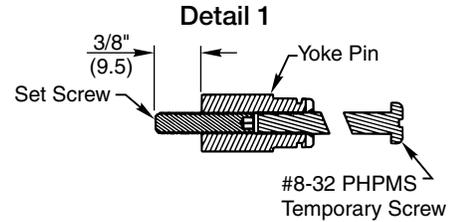

Figure 14
- B. Attach top latch with two (2) #10-24 X 1/2" PRHMS.
- C. Install bottom bolt case with two (2) #10-24 X 1/2" PRHMS.
- D. Thread set screw into yoke pins (Insert with hex socket end inside pin). Thread #8-32 x 2" PHPMS screws into slotted end of yoke pins until seated to hex head set screw. (Detail 1 - Figure 14)
- E. Install two (2) yoke pin assemblies into arm and bracket assemblies.